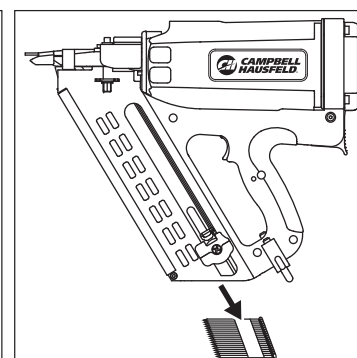

Figure 19
2. Turn tool to the upright position. All remaining nails in magazine will slide out the bottom of the magazine (see Figure 19).